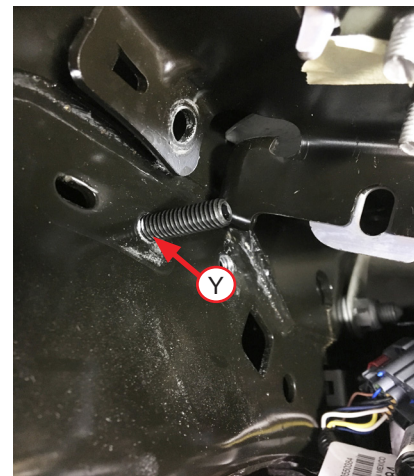

Fig. 23
3. Install the 50mm set screw (Y) into the rearward threaded hole. Leave about 30mm (1.20") protruding from the frame (Fig. 23).